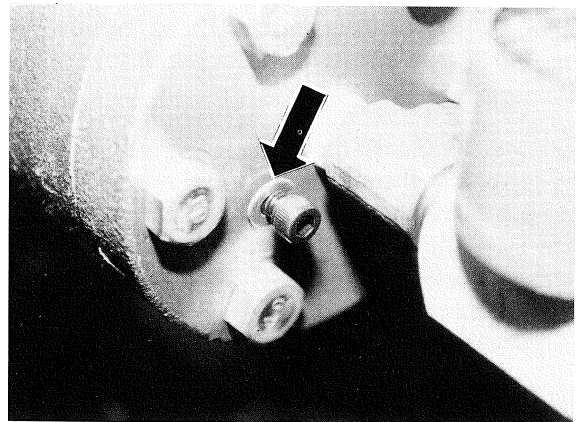

Fig. 72 Unloader cover cap screw & washer
- f) When the valve plate has been attached, pull out the eyebolt from the unloader cover. Do not forget to screw in the cap screw (allen head) immediately after removal of the eyebolt (ref. Fig. 72).